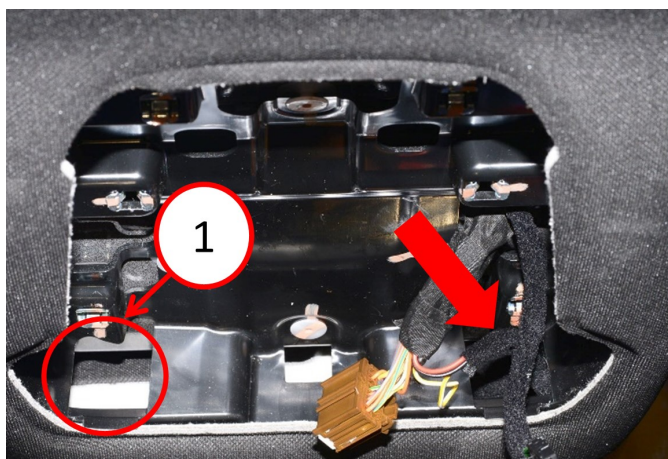

Fig. 7
18. Insert the dome lamp wire harness with jumper wire harness, into the right side dome lamp assembly mounting square cavity Fig. 7.